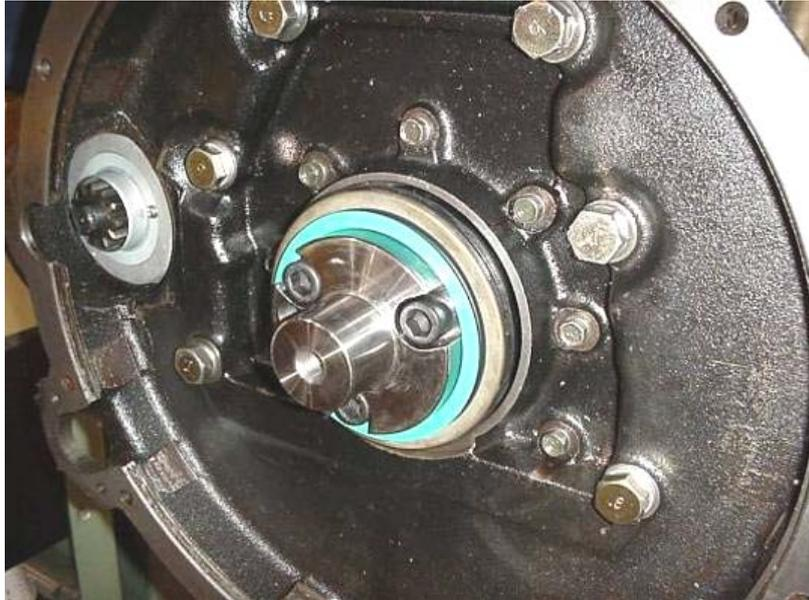

Figure 49 New Type of Seal (Placed on Crank Plate Ready for Installation)
- b. Lubricate the outside surface of the new seal with clean engine oil. Position the seal over the crank guide so that the part number stamped on the flange of the green inner sleeve is visible. Push the seal, by hand, along the crank guide until it contacts the crankshaft (Figure 49).